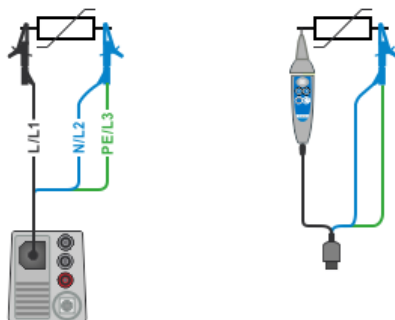
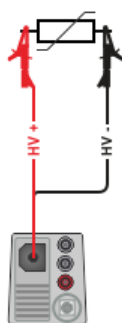

Figure 7.15: Connection of 3-wire test lead ($U_N \leq 1$ kV)
Figure 7.16: Connection of 2-wire test lead ($U_N = 2,5$ kV)
- Connect test leads to object under test (see **Figure 7.15** and **Figure 7.16**).